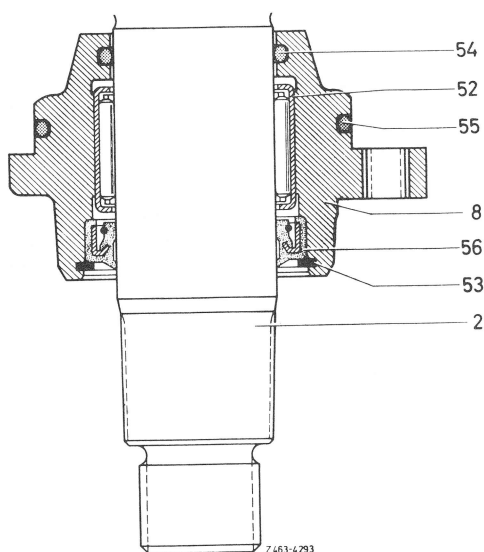

Fig. 7
7 Remove locking ring (53) and radial sealing ring (56) from housing cover (8) (Fig. 7).